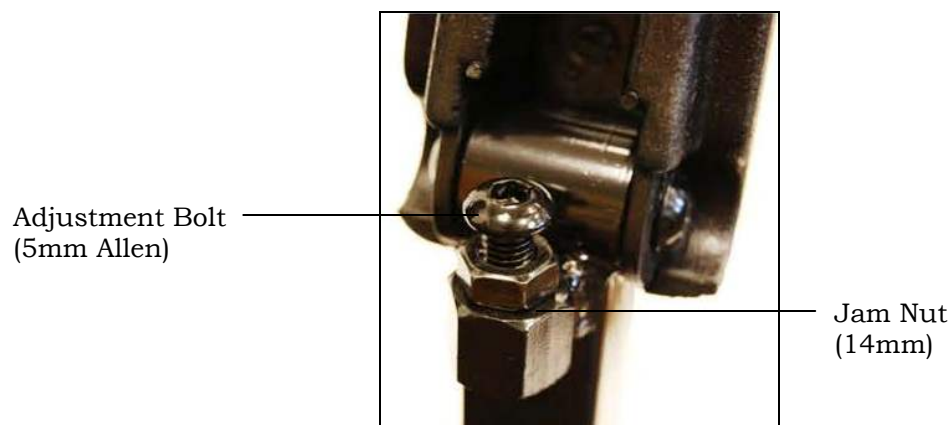

Figure 10
1. Lift armrest up. See figure 10.